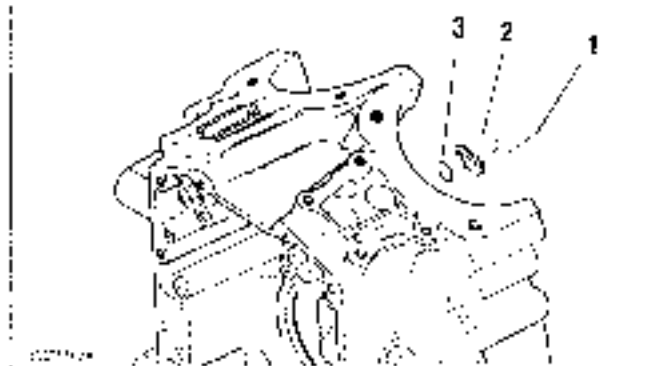

Figure 3-156. Piston Jets
- See Figure 3-156. Remove two T20 TORX screws (1) to free piston jet (2) from crankcase.
- Remove O-ring (3) from groove in mounting flange of jet. Discard O-ring.
- See Figure 3-156. Apply a very thin film of clean HD 20W50 engine oil to new O-ring (3) for piston jet. Install new O-ring in groove of jet mounting flange.
- With jet pointed upward, start two T20 TORX screws (1) to secure piston jet (2) in crankcase. Tighten to 25-35 in-lbs (2.8-3.9 N·m).